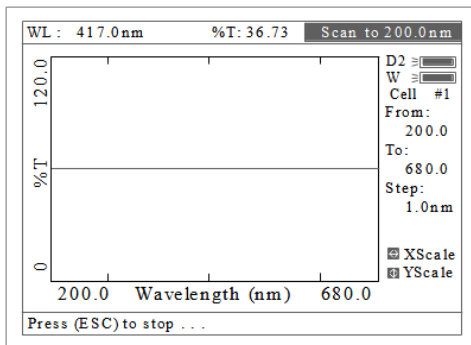
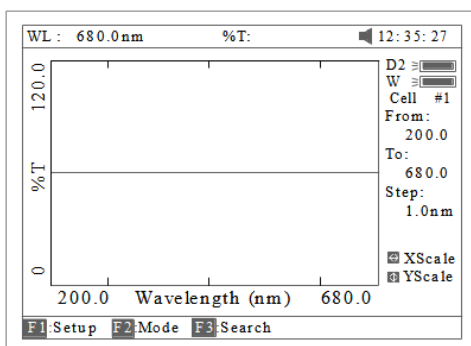

Fig 45
Fig 46
4. Put the sample cuvette into Main Light Path, press **【START】** to scan the sample (Fig 45) **【ESC/STOP】** to stop scanning. When scan has finished the beeper beeps 3 times (Fig 46).
Note: The report always is printed in Fig 46